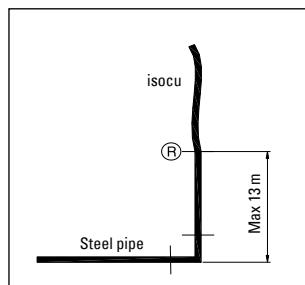

fig. 4
- When connecting isocu to steel pipes which are not fixated, the rules shown in fig. 4 must be observed.